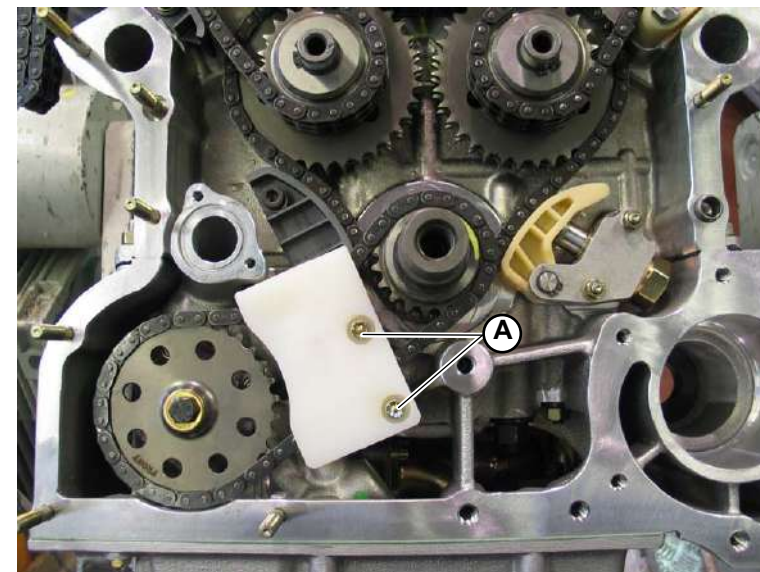

Fig.1
3. Insert the oil pump chain tightener and tighten the two bolts with washer (**A-Fig. 1**).